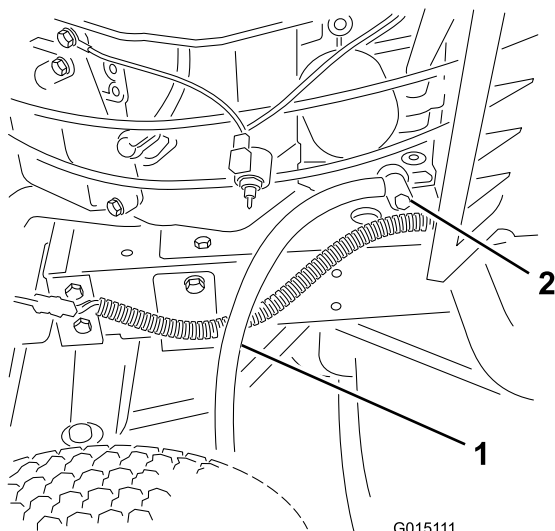

Figure 18
6. Place a drain pan below the oil drain plug, insert the drain tube on the oil drain plug, and open the drain plug by turning the end nut counterclockwise (Figure 18).